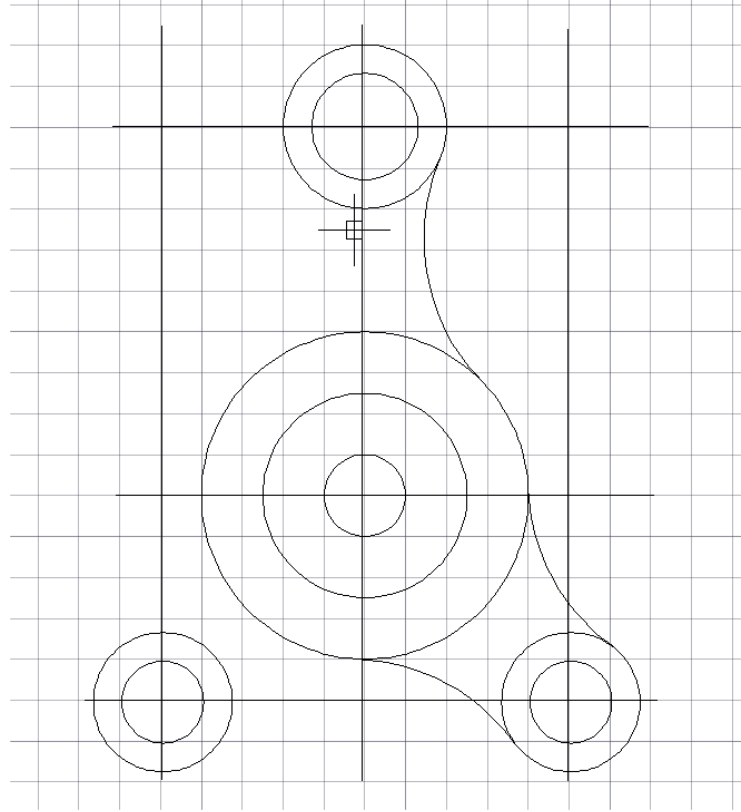

Figure 4.3 – Linking circles
4.2.4 Now let's move on to creating mates. To do this, select the "Fillet" element in the "Editing" panel or click on the icon . The program in the command line will ask for the fillet radius, enter the value 50 mm. Click on a circle with a diameter of 40 mm and on a circle with a diameter of 80 mm, press "Enter" (figure 4.3).